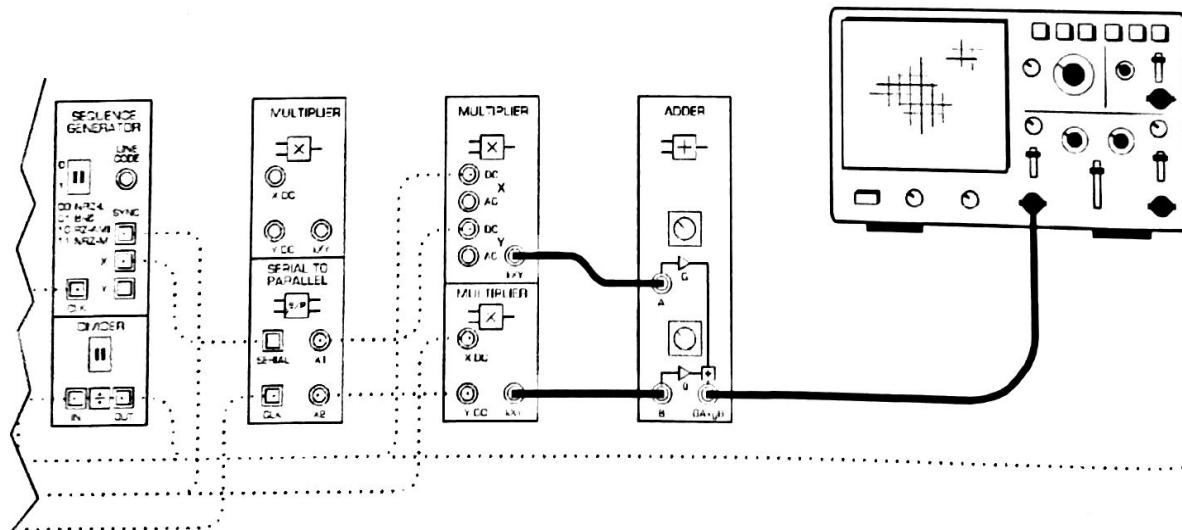
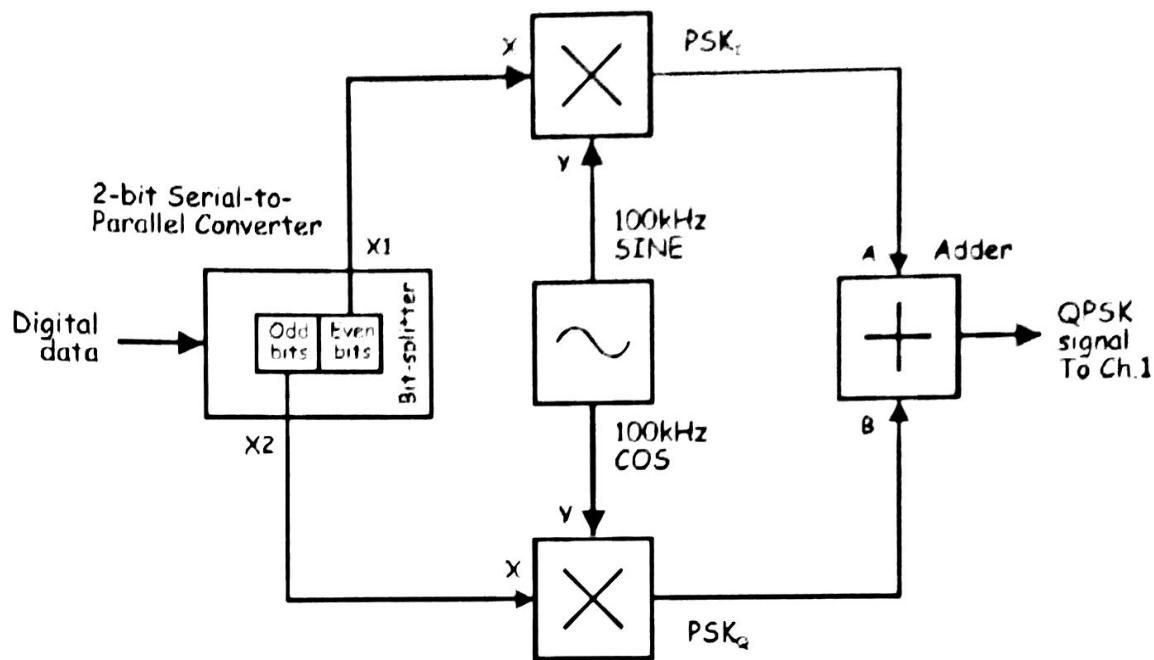

Figure 9
Figure 10
23. Modify the set-up as shown in Figure 9 below.
The set-up in Figure 9 can be represented by the block diagram in Figure 10 below. The Adder module is used to add the PSK_I and PSK_Q signals. This turns the set-up into a complete QPSK modulator.